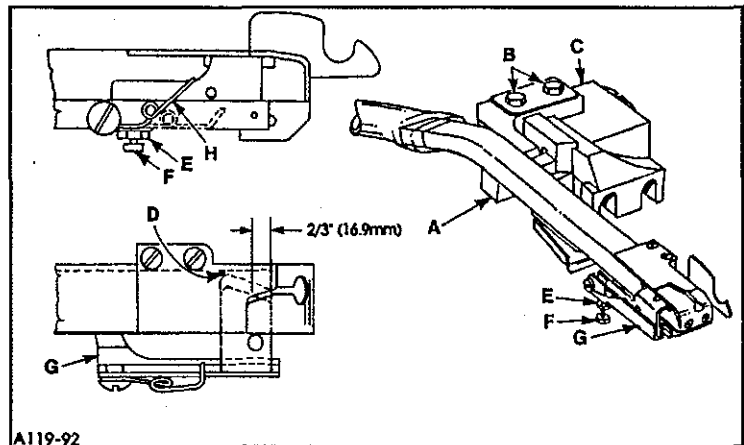

Fig. 20
The knife cross over is set at the factory, however, adjustment will be necessary after replacing or repairing knives. With sewing motor switch in "OFF" position and air line connected to air motor for "AIR-KLIPP" chain cutter (see setting pressure valve) depress treadle until air motor begins to operate, in and out. With forefinger, carefully press against the moving drive link (A, Fig. 20) until air motor stops.
With treadle still depressed, check the knife cross over. The cross over of the lower knife to the upper knife is positioned correctly, when the lower knife is 2/3 from the front of the upper knife as shown in Fig. 20. If adjustment is required, loosen screws (B), reposition air motor (C) slightly to the left if lower knife is positioned to far left or slightly to the right if lower knife is positioned too far right. Retighten screws (B) and recheck cross over.
If adjustment is required, loosen nut (E, FIG. 20) and turn lower knife adjusting screw (F) clockwise (a small amount at a time) while manually operating knife lever (G), continuously checking with a piece of thread to see if knives are cutting. As soon as the knives fail to cut the thread and the shear angle is zero, turn screw (F) counterclockwise approximately 1/4 turn and lock with nut (E). Check cutting action of knives with sewing motor switch "ON".
Torsion spring (H, FIG. 20) initially should be horizontal in its free state and then lifted over the knife. More pressure can be obtained by bending spring (H) slightly to the left (away from lower knife); less pressure - by bending spring slightly to the right (towards lower knife).